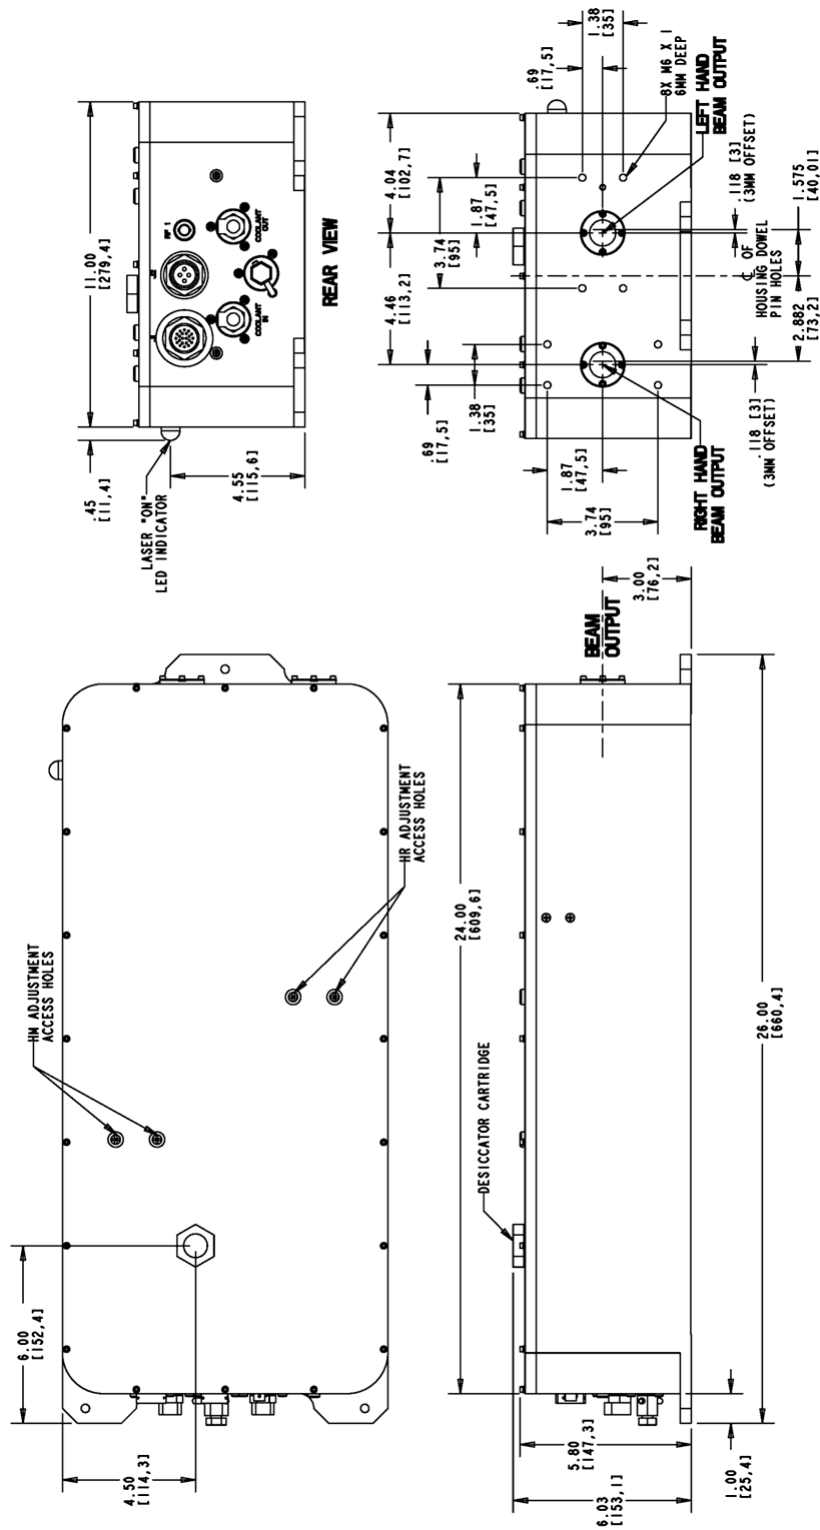

Figure 2-1 Patara Laser Head Dimensions, Sheet 1
The detailed dimensions of the Patara laser are shown in Figure 2-1 and 2-2. The laser head has dimensions of 26 inch (L) x 11 inch (W) x 6.03 inch (H).